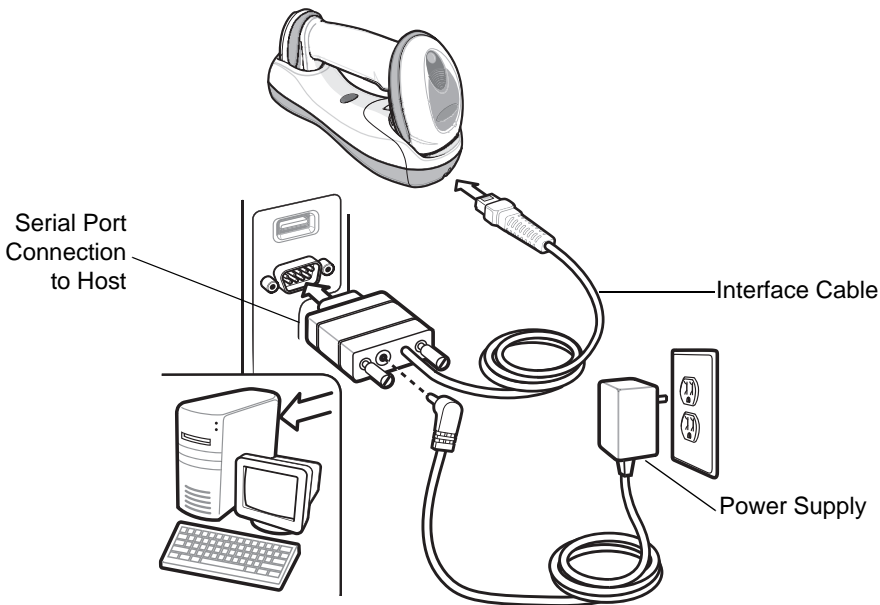

Figure 8-1 RS-232 Direct Connection
- ✓ **NOTE** Interface cables vary depending on configuration. The connectors illustrated in Figure 8-1 are examples only. The connectors may be different than those illustrated, but the steps to connect the cradle remain the same.